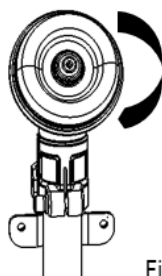

Fig.7
1. Remove the nut (clockwise), and all head components (Fig. 7 and 8).